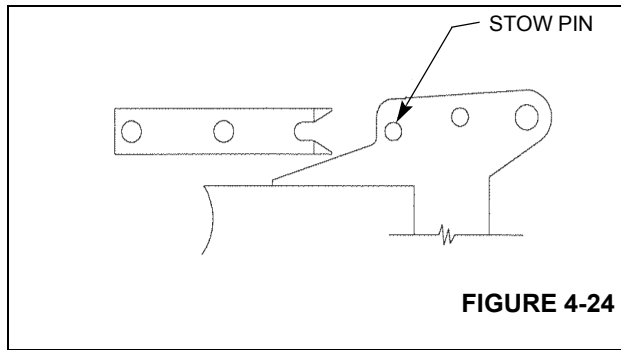

FIGURE 4-24
7. Observe the horizontal alignment of the slot in the ear assemblies and the stow pin in the jib. Horizontal adjustment of the stow ears is provided by oversize bolt holes in the stow ear. Move the ears in or out to achieve proper alignment. Position the top ear so it holds the top of the jib in toward the boom and the bottom ear so that it holds the bottom of the jib away from the bottom of the boom, see Figure 4-24.